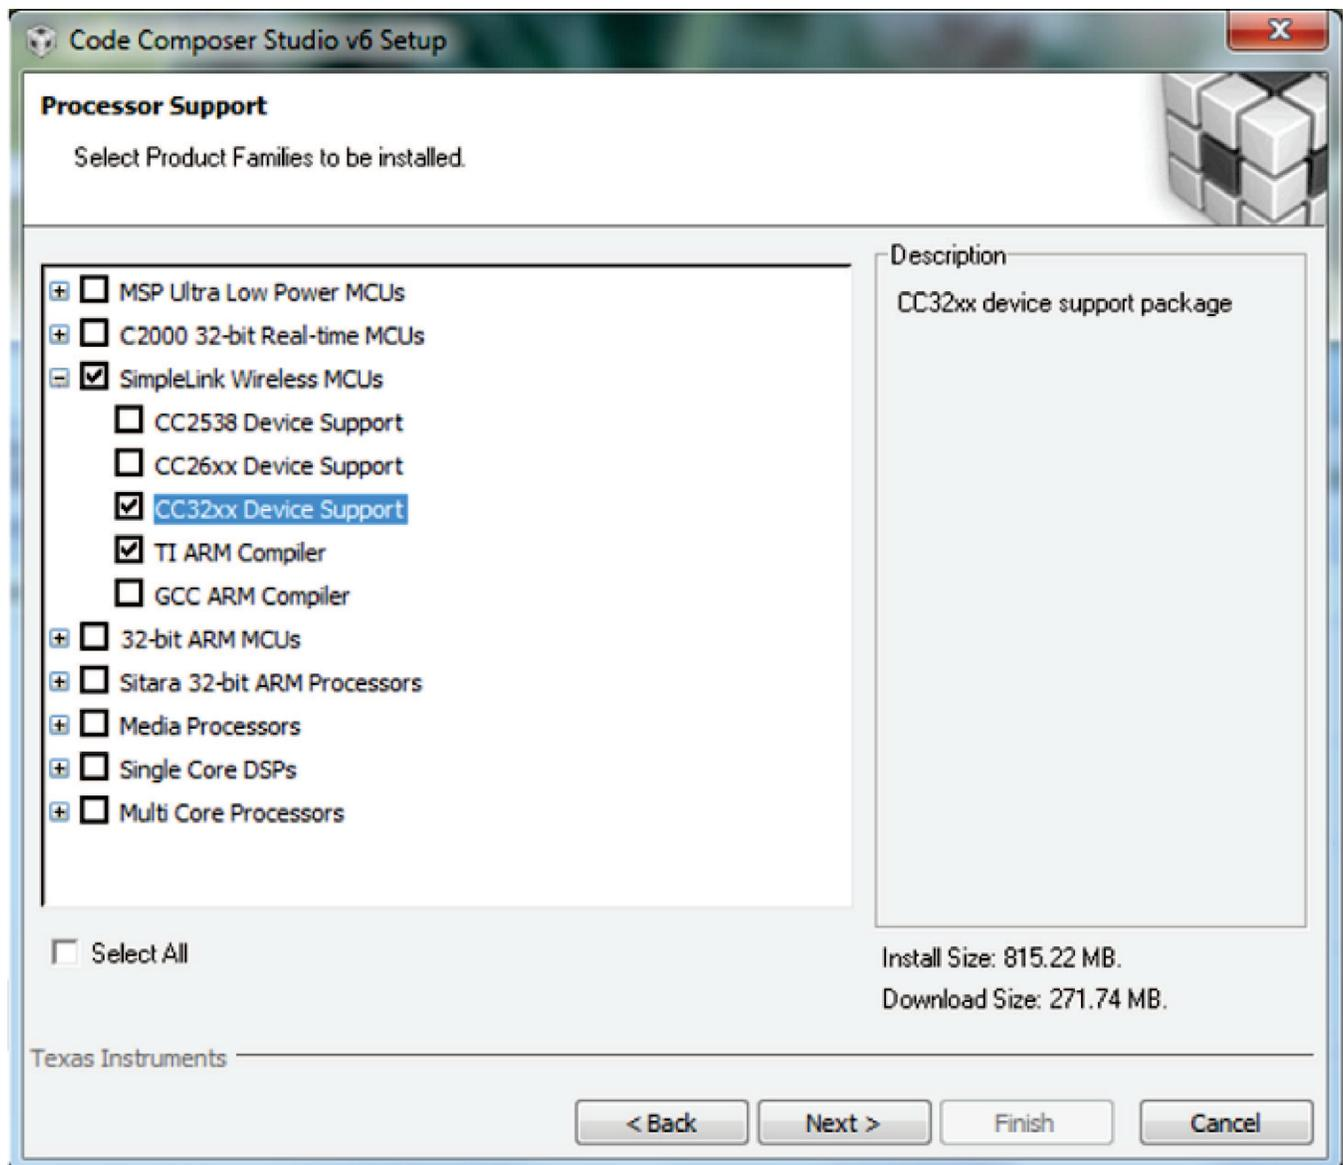

Figure 1-11. Set up CCS
2. Make sure to select the SimpleLink Wireless MCUs option for processor support, as shown in Figure 1-11. Click Next to continue.